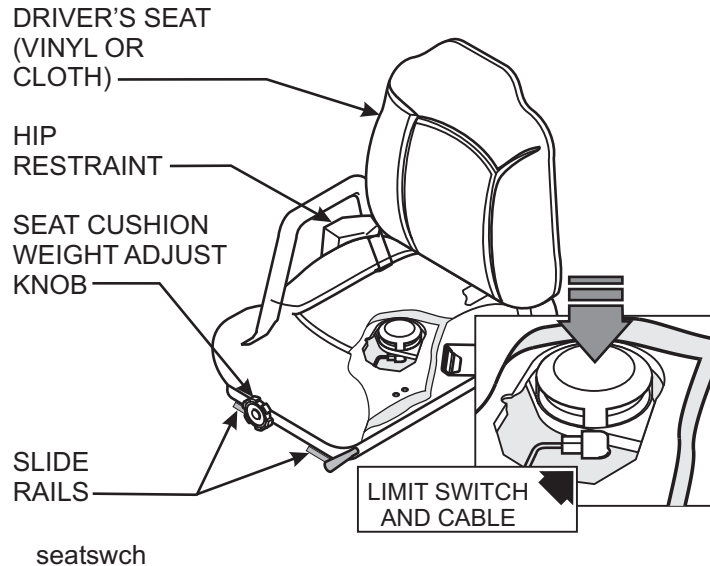

Figure 2-5 Driver's Seat Switch
This procedure checks the physical mechanics (actuation) of the driver's seat switch only. The switch is part of the seat (See Figure 2-5).
2. The seat switch and actuator are internal to the seat cushion, located on the under side of the seat cushion between the cushion and the bottom plate (See Figure 2-5).